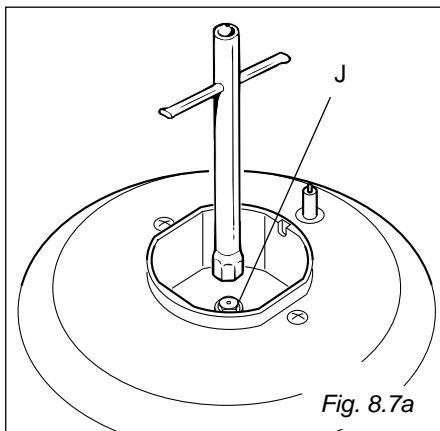

Fig. 8.7a
- Using a wrench, substitute the nozzle injectors "J" (fig. 8.7a, 8.7b) with those most suitable for the kind of gas for which it is to be used.